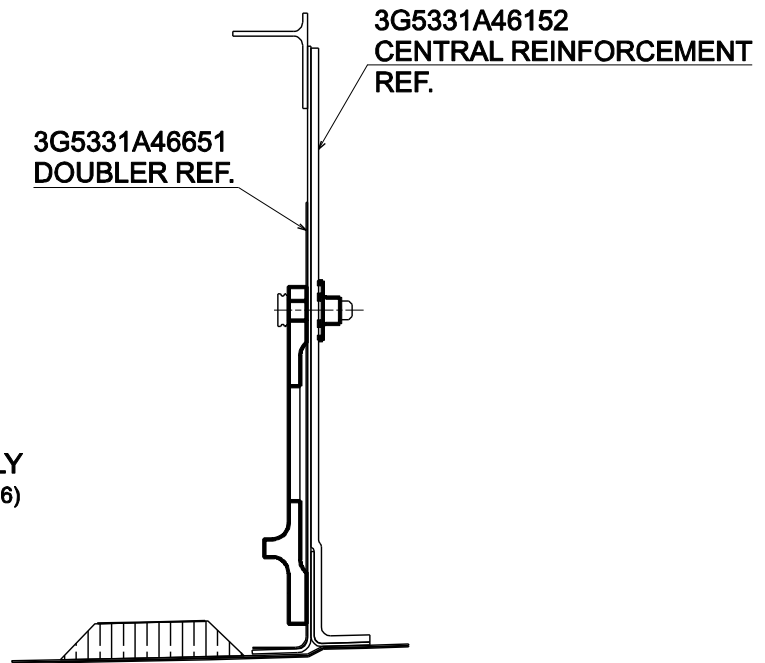

Figure 4
Figures 4 thru 9 show how to apply reinforcement/doublers on areas where cracks have been found. Figures 20 and 21 show subfloor frame STA 2105 after retro-mod installation.
7. With reference to figures 4 thru 21, apply Subfloor Frame STA2105 Retro-Mod P/N 3G5306P47211 as follows:
7.6.4. Put in position doubler P/N 3G5331A46651 according to figure 6 and to figure 4 section F-F and countermark holes position for self-locking nuts and rivets installation, from the middle frame on the doubler. Drill 6.50-6.65 mm diameter holes on the doubler.
(REFER TO FIGURE 4)